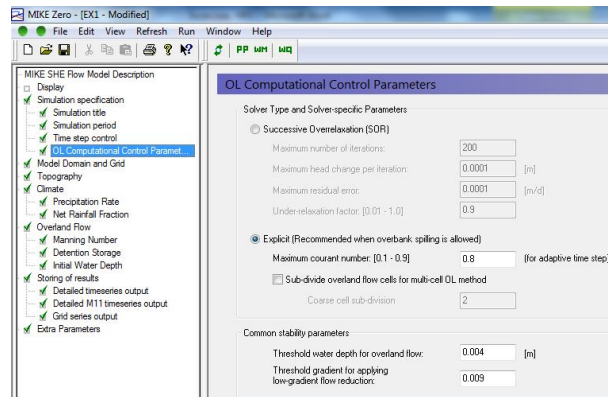

Figure 126: Setting the computational control parameters
- Browse to OL Computational control under the setup page (See Figure 126)